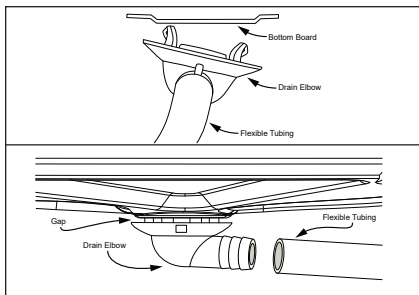

Figure 7 - Ensure proper drainage configuration.
- When installing the drain elbow, make sure the gap between it and the bottom board remains. If drainage is insufficient, water will leak from this gap. See Figure 7.